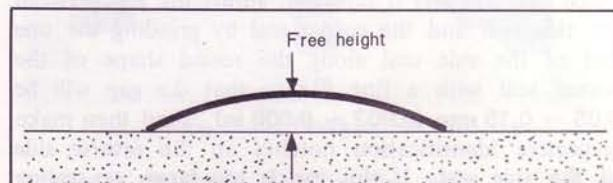

Fig. 1-46 Apex seal spring
6. Check the free height of the apex seal spring as shown in Fig. 1-46. It should be more than **3.8 mm (0.15 in)**.